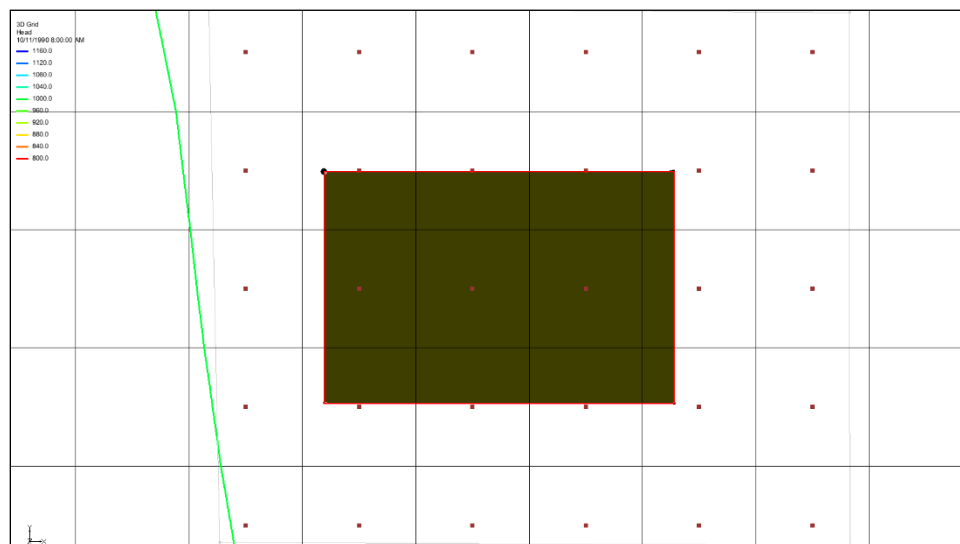

Figure 5 The polygon created from the arc, when selected
4. Select **Feature Objects | Build Polygons** to create a polygon (Figure 5).